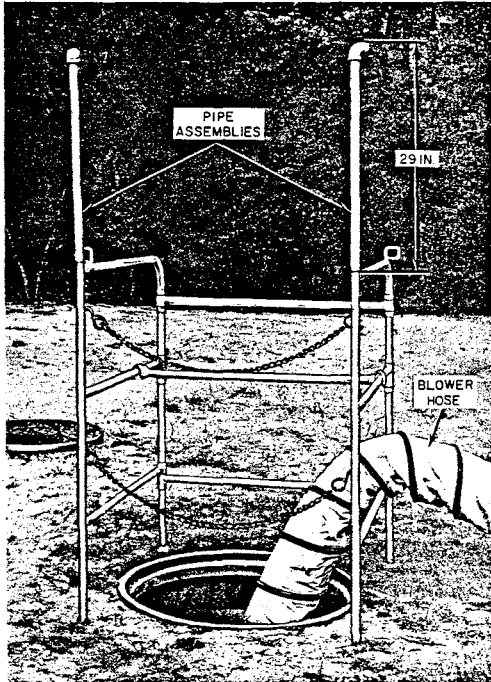

Fig. 2—Manhole Guard With Tent Pipe Assemblies in Place
2.04 Each of the two pipe assemblies consists of a length of 3/4-inch galvanized steel pipe fitted with an elbow on one end and a steel pin extending 4 inches from the other end. The pins fit into the top of the front uprights of the manhole guard. (Fig. 2). Overall length of each pipe assembly is 29 inches.